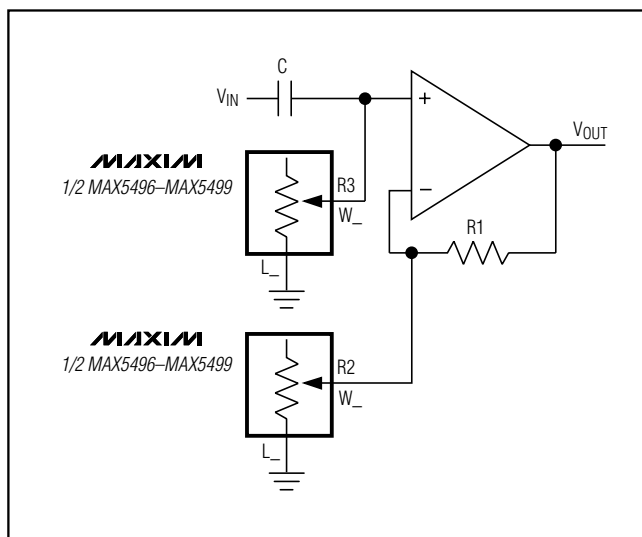

Figure 14. Programmable Filter
Figure 14 shows the configuration for a 1st-order programmable filter. The gain of the filter is adjusted by R2, and the cutoff frequency is adjusted by R3. Use the following equations to calculate the gain (G) and the 3dB cutoff frequency (f_c).